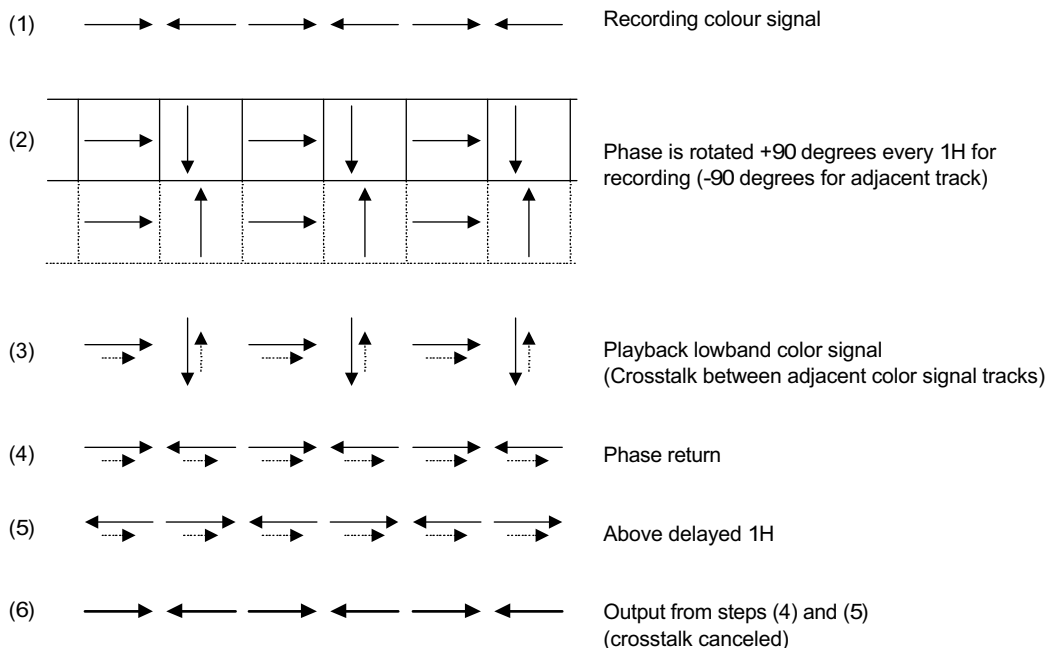

Fig. 3-2-3 Phase shift principle
A phase shift (PS) system is used for recording in the VHS format for reducing crosstalk between adjacent color signal tracks. The principle of this system is outlined in Fig. 3-2-3. The phase of the down converted color signal for recording is rotated 90 degrees every horizontal line (1 H) so that the mutual rotation of adjacent tracks is opposite. The phase is rotated by rotating the phase of the local oscillator signal aligned at the main converter.